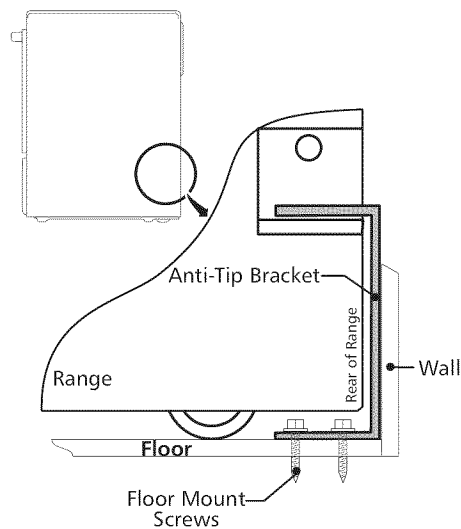

Figure 15
4. Remove template and place bracket on floor. Line up holes in bracket with marks on floor and attach with 4 screws provided. Bracket must be secured to solid floor (Figure 15). If attaching to concrete floor, first drill 3/16" (0,48 cm) dia. pilot holes using masonry drill bit.
6. Slide range into place making sure structure of the range is trapped by the anti-tip bracket (Figure 15). Lower the range by adjusting the 4 leveling legs until the underside of the cooktop is sitting level on the countertop. Refer to "Leveling the Range" section.